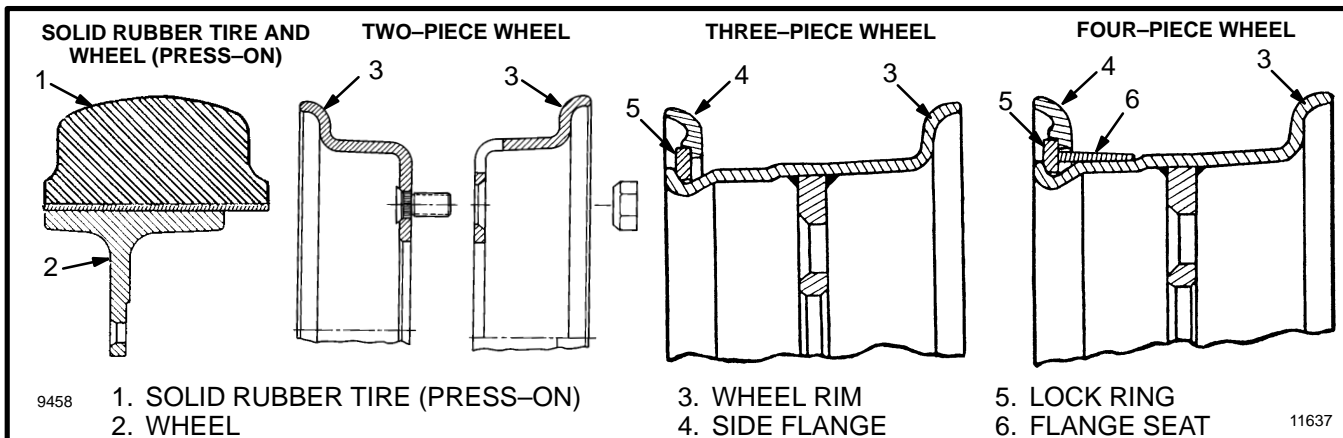

FIGURE 27. TYPES OF WHEELS
**NOTE:** When you disassemble the wheels, see FIGURE 27. There are several types of wheels used on this series of lift trucks.